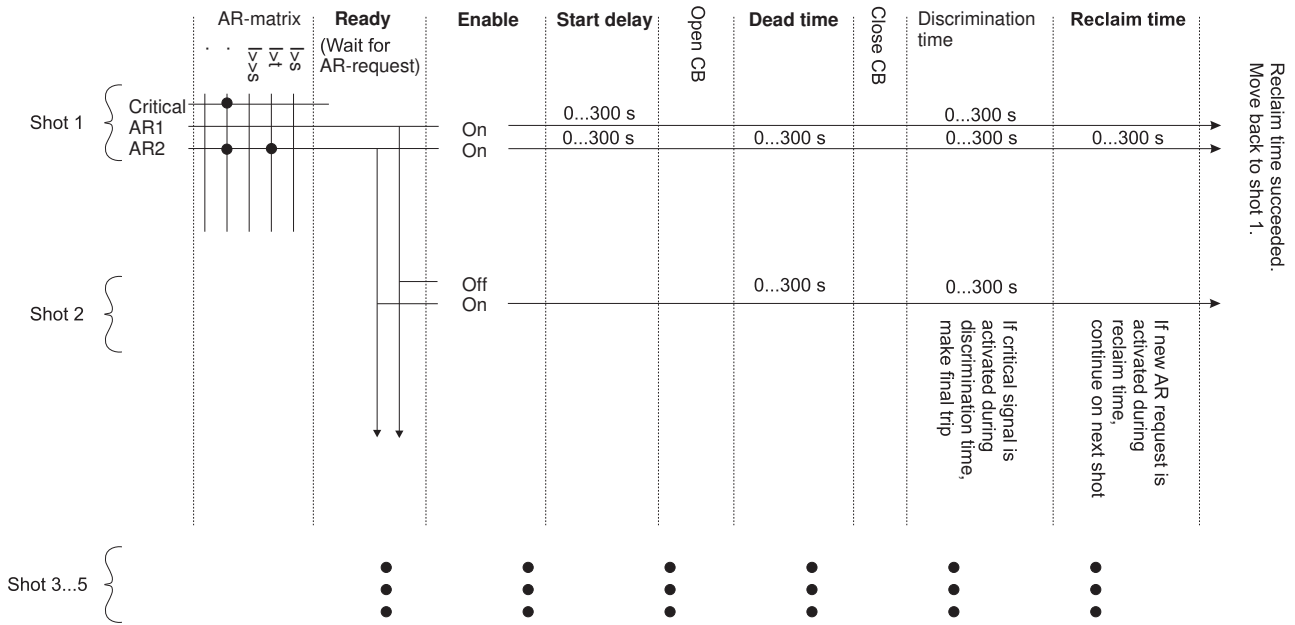

Figure 6.53: Auto-reclose matrix
The auto-reclose (AR) matrix in the following Figure 6.53 describes the start and trip signals forwarded to the auto-reclose function.